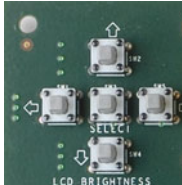

Figure 5-6. Push Buttons
4. Press the push buttons on the top left of the board. The result appears in the **Push Buttons** panel in the **Board Status** tab, (Figure 5-6).